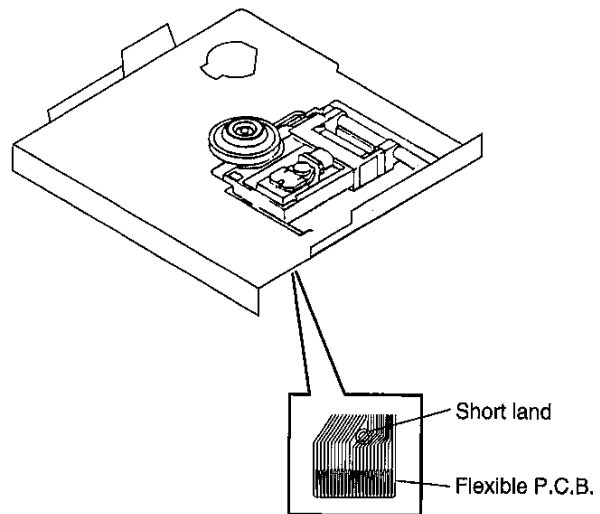

Fig. 1
2. Before you take off MD mechanism unit (optical pickup), short the short-land of the flexible P.C.B. by using a solder. (refer to Fig.1)